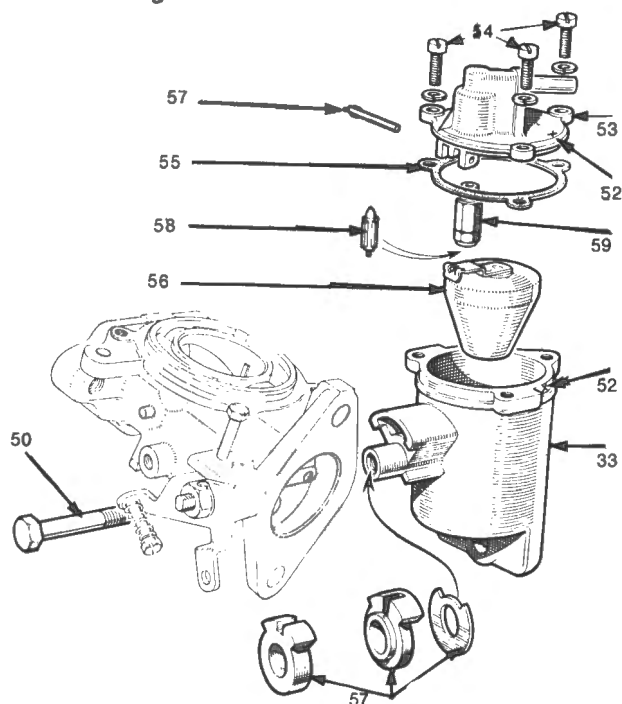

Fig. F-28
- 12 Note the location points (inset 40) for the two ends of the pick-up lever return spring (41). Unscrew the lever pivot bolt (42) together with the double coil spring washer (43) or spacer (44). Detach the lever assembly (9) and return spring.
- 13 Note the location (inset 45) of the two ends of the cam lever spring (46) and push out the pivot bolt tube (47) taking care not to lose the spring. Lift off the cam lever (48) noting the skid washer (49) between the two levers. Refer Fig. F-28.